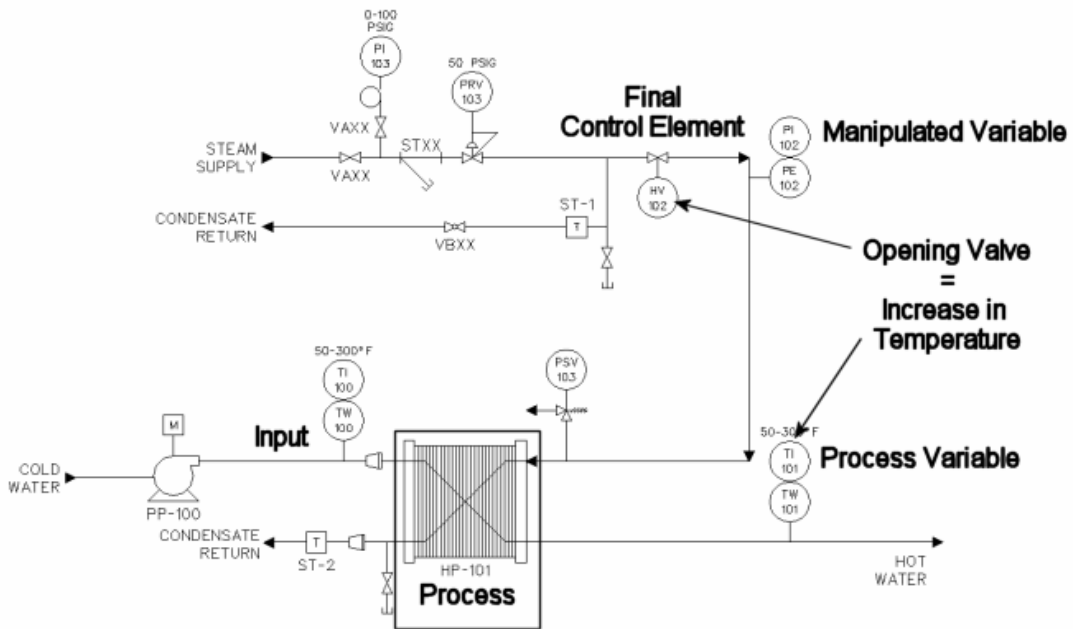

Figure 1-6
Figure 1-6 shows a heat exchanger. We see that the manipulated variable (MV) is steam pressure. The final control element is the valve, by changing the valve opening we are changing the flow of steam which we can measure by its pressure. The process variable (PV) is the temperature of the water exiting the heat exchanger; this is the measure of the process output that responds to changes in the flow of steam.